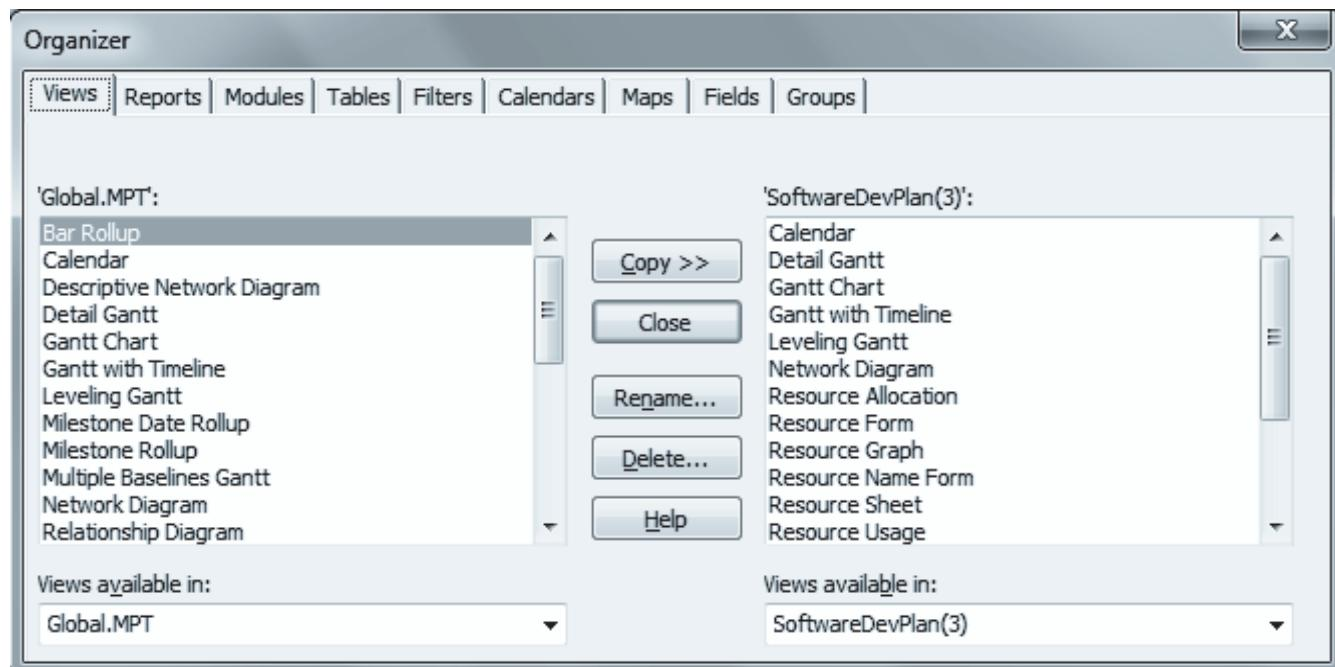

Figure 9.9: Organizing Project Details Using the Organizer
1. On the **File** tab, click **Info**, and then click the **Organizer** button to display the **Organizer** window as shown in figure 9.9.